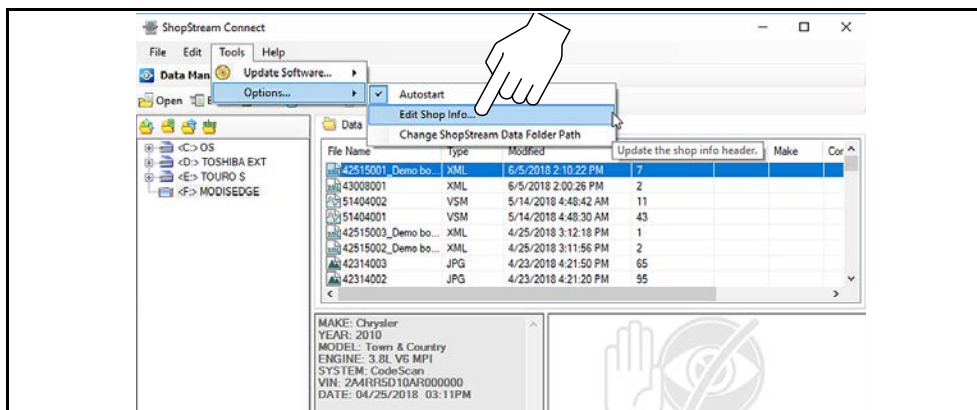

Figure 14-8
1. From ShopStream Connect, select **Tools > Options > Edit Shop Info** (Figure 14-8).